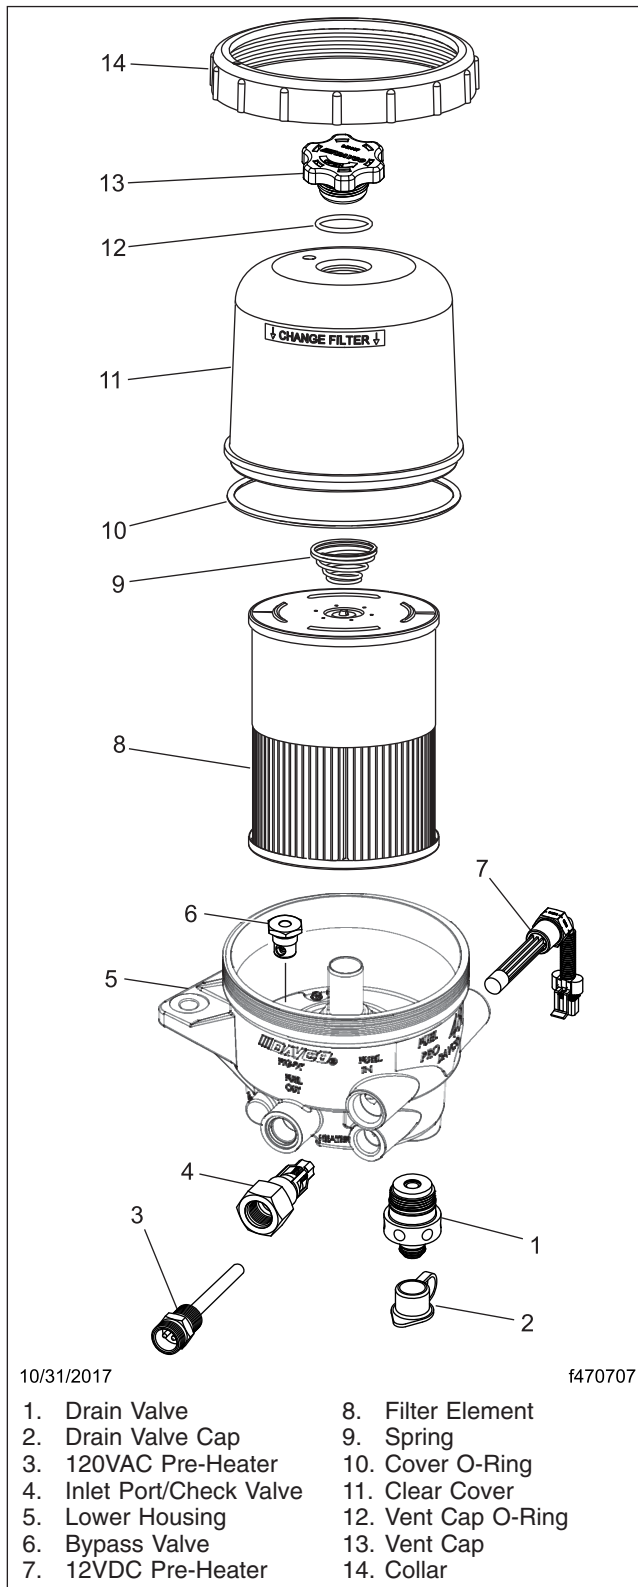

Fig. 4, DAVCO Fuel Pro 487
4. Remove the vent cap, shown in Fig. 4, to drain the fuel completely, then close the drain valve.
6. Remove the filter, cover O-ring, and vent cap O-ring. Dispose of them in an environmentally acceptable manner. See Fig. 4.